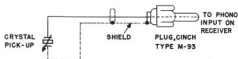

Fig. 6. Wiring Diagram for Record Player Connection
**RECORD PLAYER CONNECTION** - A shielded type phono jack is provided on the rear of the chassis to accommodate any record player employing a crystal pickup. Refer to Fig. 6 for wiring details.